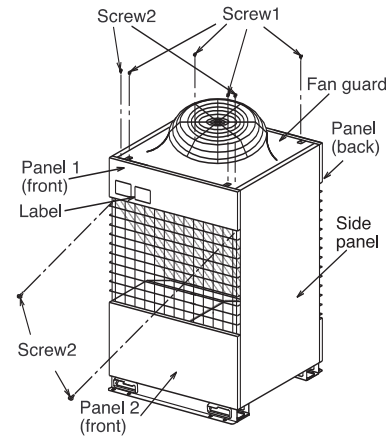

Fig.1
- A. Remove the screw1, and remove the fan guard, referring to Fig.1.
- B. Remove the screw2, and remove the panel 1, referring to Fig.1.
- I. Attach the supplied label on the unit, referring to Fig.1.
- ① Remove the Panel 2, referring to Fig.1.
- ② Remove the control box cover.
- ③ Set the DIPSW, which is on the front board in the control box, referring to the figure below.